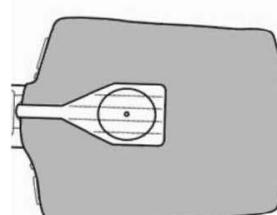

Figure 8
8.The face shield lung bag is then placed on top of the compression plate (the hard plastic piece found on top of the torso foam core) with the oval printed on the face shield lung bag matching the compression plate (Figure 8).